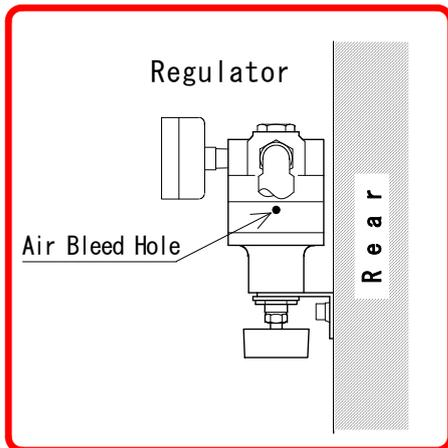

Figure 6-7
- It is normal that air exhausts all the time from the Air Bleed Hole (Figure 6-7).